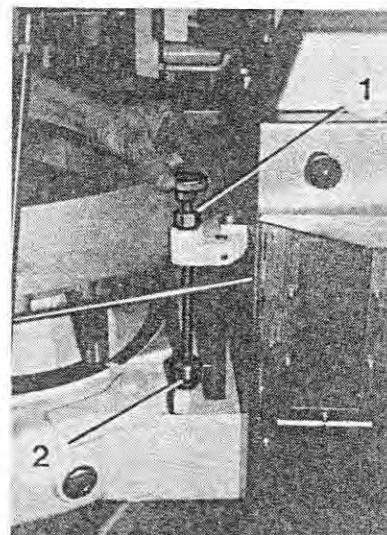

Fig. 189
6. Loosen the counternut (Figure 189/1) and turn the spindle to adjust the stop (Figure 189/2) of the roller lever to the mark which corresponds to the package height. Tighten the counternut.